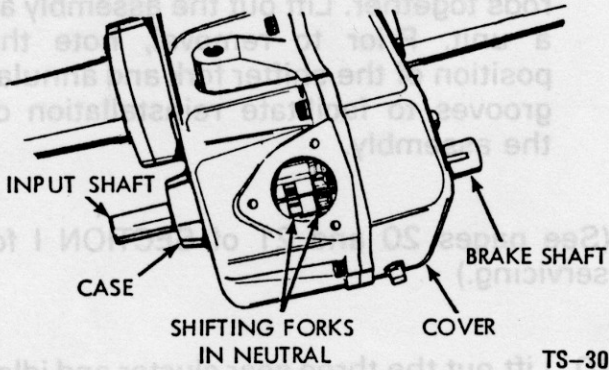

Figure 45 - Transaxle Case
3. Place shifter lever (Figure 45) in neutral.
4. Remove shifter lever assembly by removing (3) cap screws and lifting assembly from the transaxle. (See page 20 of SECTION I for servicing.)
5. Remove (8) retaining cap screws from the case and cover.
7. Drive dowel pins (2) through the cover into the case and lift the cover from the case.